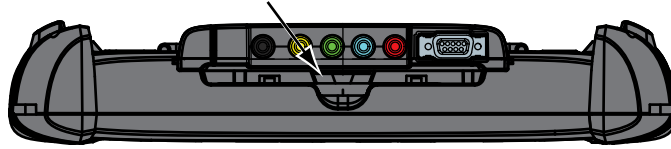

Figure 8-1 Scope Multimeter release tab
1. Depress the Scope Multimeter module release tab located on the top of the unit (Figure 8-1).